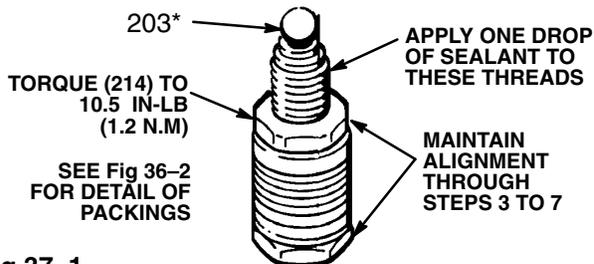

Fig 37–1
1. Check the outside of the piston rod (223) and the inside of the cylinder (216) for scoring or scratches. If the parts are damaged, new packings will not seal properly. Replace these parts if needed.
2. Stack the backup washer (219*), u-cup seal (205* – lips down), female gland (220*), packings (217* – lips up) and male gland (213*) onto the piston valve (224). See Fig 37–1.
3. Tighten the packing retaining nut (214) onto the piston valve (224) and torque to 10.5 in–lb (1.2 N.m). Then unscrew the nut and retighten, finger tight only.
4. Apply *only 1 drop* of adhesive, supplied with the repair kit, to the threads of the piston valve. Place the small ball (203*) on the piston valve (224). See Fig 37–1.
5. Hand tighten the valve assembly into the piston rod just until the nut (214) contacts the face of the rod. See Fig 37–1.